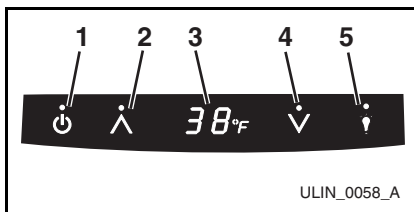

Figure 3
To turn the unit on or off, touch and hold the POWER icon (**Figure 3, 1**) on the display panel for approximately ten seconds until the °F symbol flashes and release.
- The display (**Figure 3, 3**) will show the unit set-point temperature (38°F) when the unit is on and will show OFF when the unit is off.
The LIGHT icon (**Figure 3, 5**) on the control panel is used to control an additional lighting function. The blackout/Sabbath mode (not Star K certified) will turn the interior light and display (**Figure 3, 3**) off.
1. Touch and hold the LIGHT icon (**Figure 3, 5**) for ten seconds and release (the °F symbol will flash briefly at the end of the five second period).
2. The interior light and control display (**Figure 3, 3**) will go dark for 36 hours.